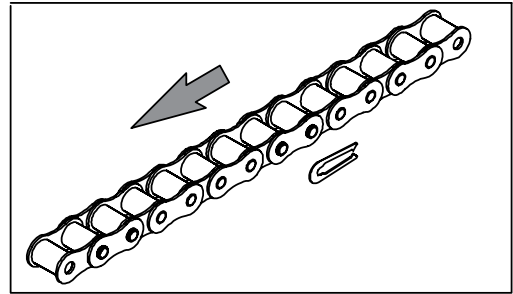

Figure 5. Direction of chain shackle
7. Install the chain/belt pulley in its place. Ensure that the locking direction of the locking loop is the same as the turning direction. See Figure 5.